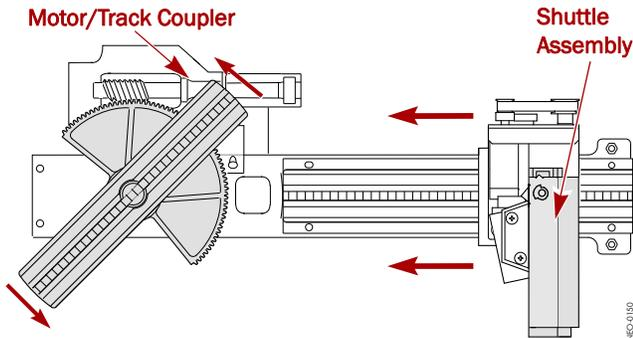

Figure 2. Top View of Shuttle Track Showing Movable Section
- By hand, turn the **motor/track coupler** until the track is at a 45° or larger angle (Figure 2).